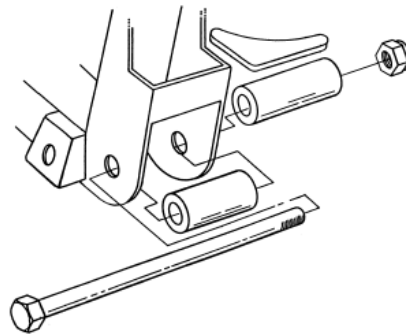

Figure 4- Lower A-Arm Install
- 6.) If you purchased a complete I.F.S. Package from HEIDTS, it was supplied with Full Lower A-Arms. Begin by installing the Lower A-Arms onto the crossmember. The holes where the lower control arms attach to the Crossmember must be enlarged to 5/8". Mount the Crossmember Spacers and the Rear Spacers which were supplied with the Lower Control Arms onto the Crossmember as shown in **Figure 4** using the supplied Inner Bushing Bolts, Nuts and a temporary spacer under the Nuts. DO NOT use the A-Arms for this operation as the welding heat will melt the rubber bushings. Tighten the Bolts and Nuts tight. Weld the Rear Spacers to the Crossmember all around. Weld the Crossmember Spacers as far as possible inside the crossmember on both ends. Position the Gussets horizontally, not vertically, against the Rear Spacers and the back of the Crossmember. Weld Gussets to Spacers and Crossmember. When it cools, remove the bolt.